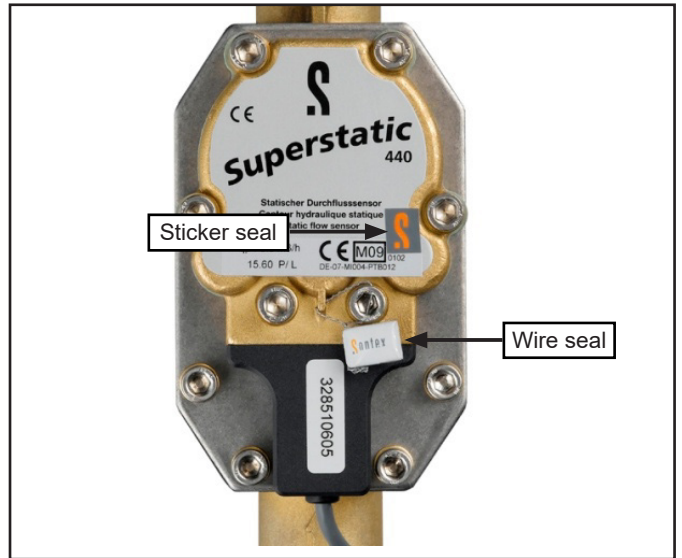

Figure 7-15: Calibration seals on flow meter
- Flow meter - two seals (one a sticker and the other a wire seal) are located on the front face of the flow meter. Refer to Figure 7-15.